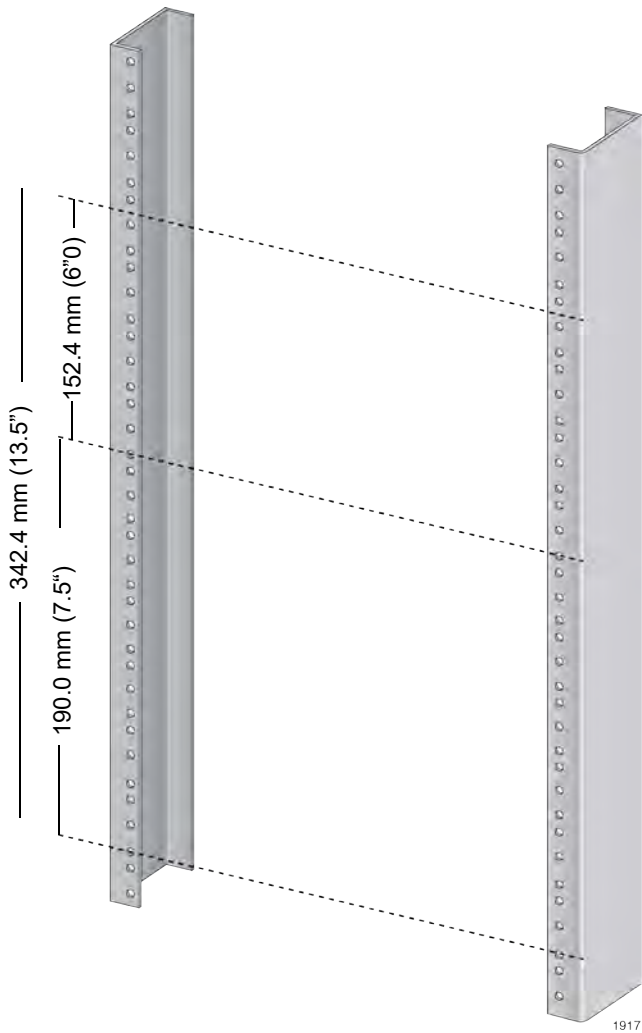

Figure 37. Reserving Vertical Rack Space
1. Reserve 190.0 mm (7.5") of vertical rack space for the installation of the AT-SBx8106 Chassis, as shown in Figure 37 on page 110.